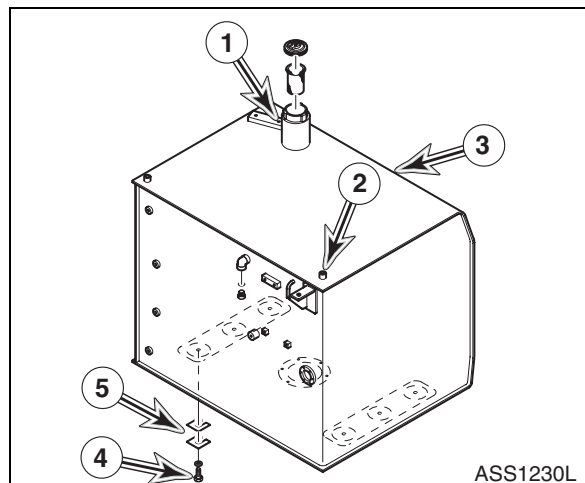

Figure 10
19. Install two 12 mm eye bolts in threaded holes (1 and 2, Figure 10). Using a suitable lifting device, sling eye bolts.
20. Remove six bolts and washers (4, Figure 10) holding tank (3) to frame. Lift tank 25 mm (1 in) and make sure it is balanced. Make sure that there are no other electrical wires or hoses connected to tank. Completely remove tank after inspection.
21. Remove shims (5, Figure 10).